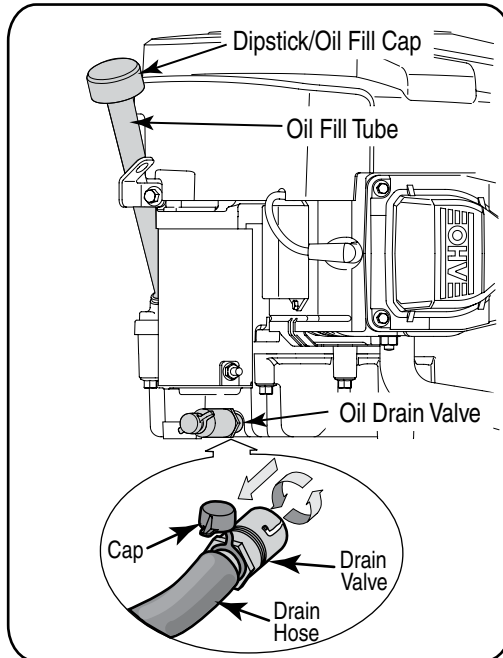

Figure 15
- Clean the area around the oil dipstick/fill cap. unscrew the dipstick/fill cap from the fill tube on the engine. Remove the dipstick and wipe the oil off. Reinsert the dipstick into the tube and rest the cap on the tube. Do not screw the cap onto the tube. See Figure 15.
- Locate the oil drain valve on the right side of the engine, beneath the starter motor. Refer to Figure 15.
- Remove the oil fill cap/dipstick from the oil fill tube. Push the drain valve in slightly and turn counterclockwise until it stop, then pull the valve fully outward to open the valve and drain the oil. Refer to Figure 15.